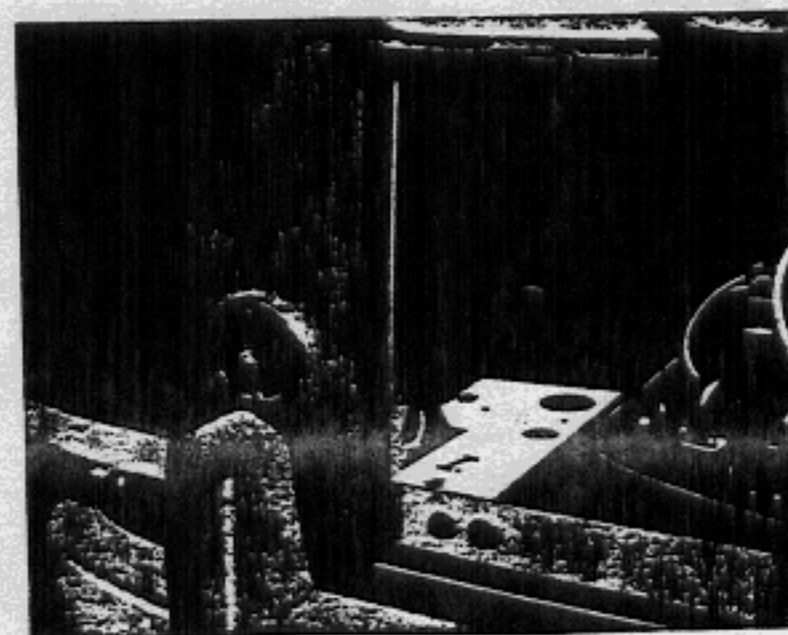

Fig. 3
- 4 - With template I, mark off and drill the opening for the exhaust pipe and two holes for the bracket on the left-hand engine cover plate. Clean up hole edges (Fig. 3).